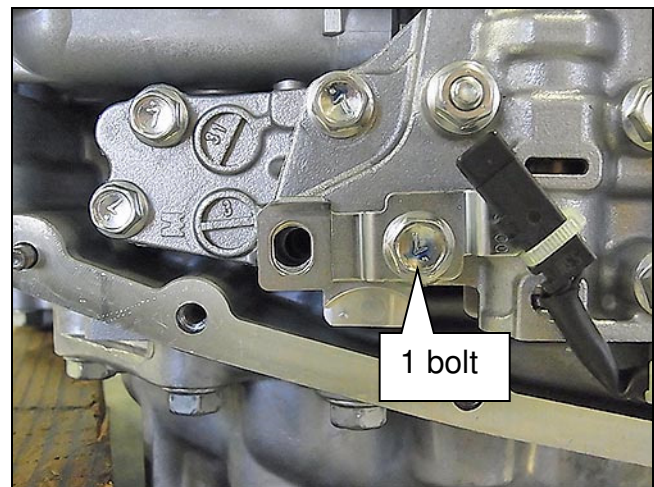

Figure 23
6. Install the CVT fluid temperature sensor bracket to the valve body with one (1) bolt (Figure 23).